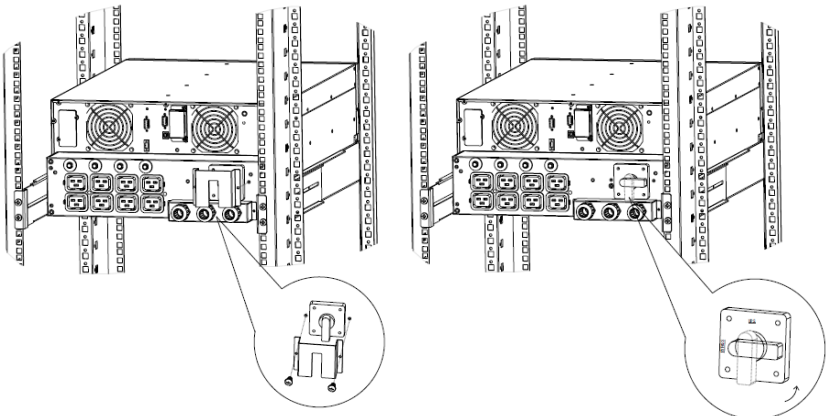

Figure 37: Removing the XANTO S 10000, step 1/3
1. Remove the safety cover from the maintenance which. Unscrew the two screws to do this. Switch the maintenance switch to bypass (see Figure 37).